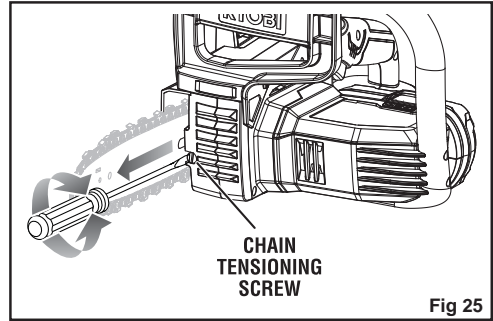

Fig 25
- Loosen the chain tension by turning the chain tensioning screw counterclockwise. See Fig.25.